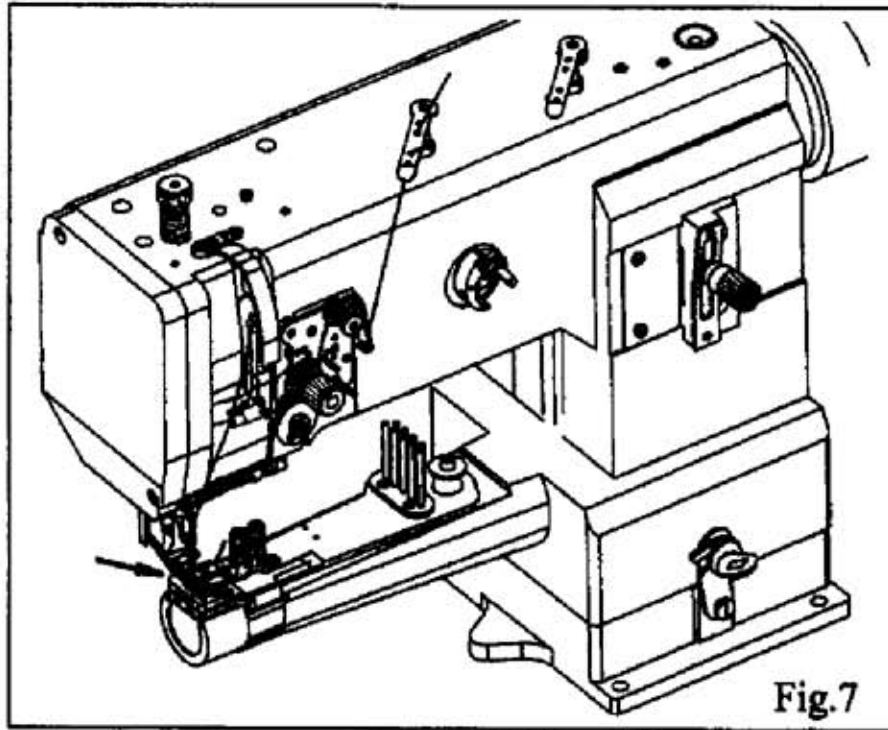

Fig.7
(7) Routing the upper thread (Fig.7)
Route the machine according to fig 7. The needle should be routed from the left (see arrow).